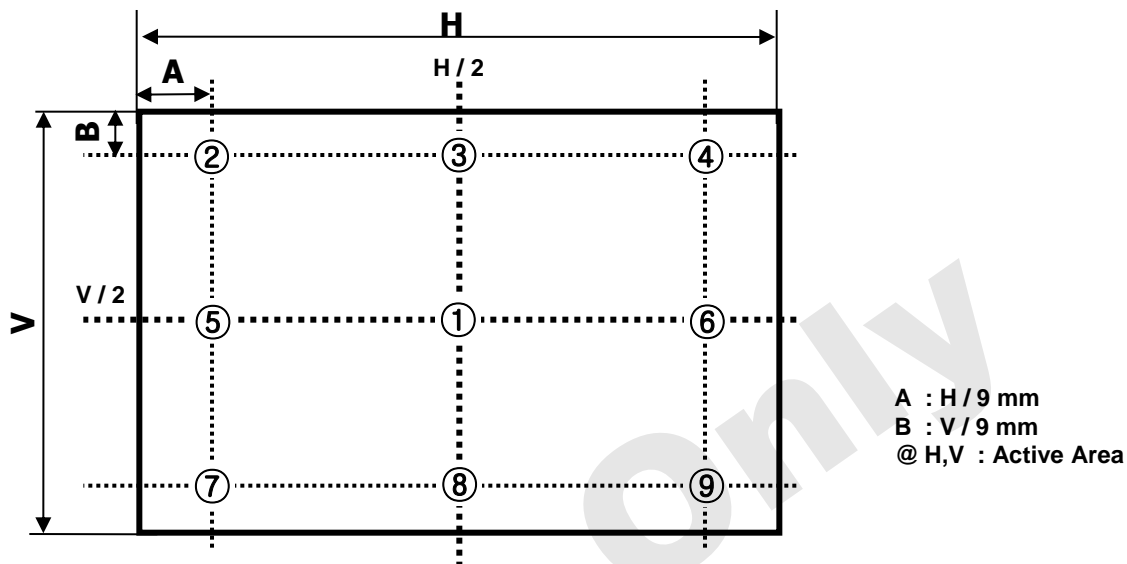

FIG. 2 9 Points for Luminance Measure
- Surface luminance are determined after the unit has been 'ON' and 1 Hour after lighting the backlight in a dark environment at $25 \pm 2^\circ\text{C}$. Surface luminance is the luminance value at center 1-point across the LCD surface 50cm from the surface with all pixels displaying white. For more information see the FIG. 2.
For more information, see the FIG. 2.